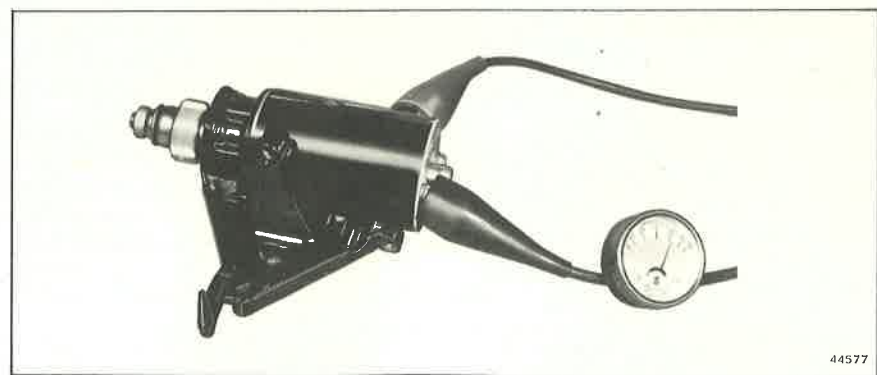

Figure 7-6. Starter Motor Test
Due to the construction of the starter motor, maintenance operations are generally limited to periodic checking for looseness of mounting. Unless it is certain that the starter motor requires attention, do not remove it for overhaul. A thorough check should be made of the battery, cables, starting solenoid, and switch as outlined in the Trouble Check Chart in Section 2. Check the starter motor by using the no load test. With 10.0 volts applied to the starter motor, maximum current should be 60.0 amperes and minimum speed should be 8000 rpm. See Figure 7-6. If it has been determined that the starter motor is malfunctioning, removal can be accomplished as follows:
e. Check starter motor with no load test. With 10.0 volts applied to the motor terminals, maximum current should be 60.0 amperes and minimum speed should be 8000 rpm. See Figure 7-6.